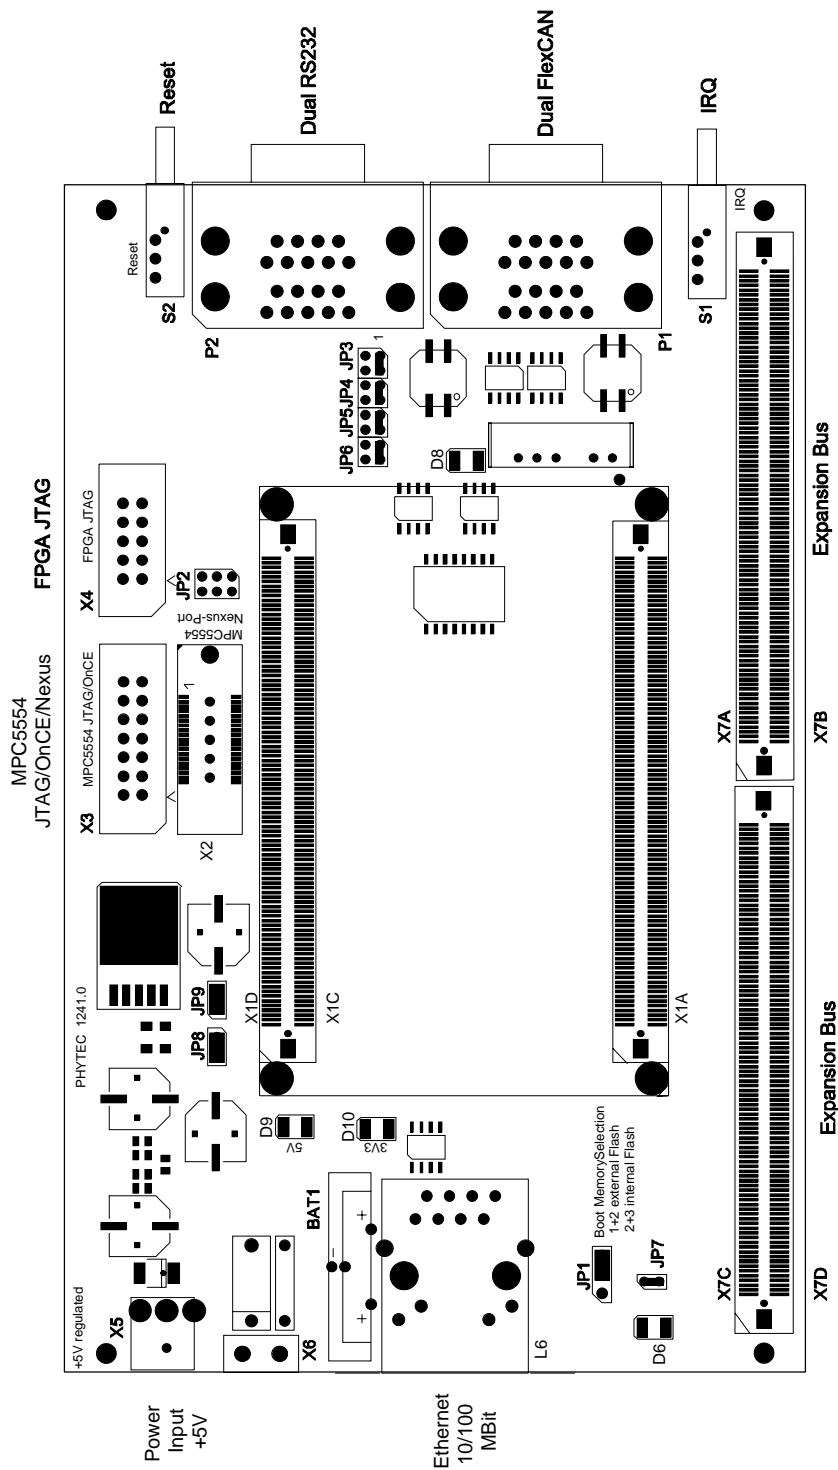

Figure 2: View of Development Board and Jumper Settings
- If the phyCORE module is not already pre-installed, mount it pins-down onto the Development Board's receptacle footprint (X1) as shown in the *Figure 2* below. Ensure that pin 1 of module matches pin 1 of the receptacle on the Development Board.
- Configure the jumpers on the phyCORE Development Board as indicated in *Figure 2*. This correctly routes the CAN interface signals. *Please see the phyCORE-MPC5554 Hardware Manual for further information on jumper settings.*
- Make sure Jumper JP1 on the phyCORE-MPC5554 Development Board is closed at position 2+3 (refer to Figure 2).
Check that jumper JP1 on the baseboard is configured to 2+3 (*refer to Figure 2*) and press the reset button S2 near the double DB9 serial connector. The system will re-start out of the on-chip Flash memory.
- Make sure Jumper JP2 on the phyCORE-MPC5554 Development Board is closed at position 1+2 (*refer to Figure 2*).
Check that jumper JP1 on the baseboard is configured to 1+2 (*refer to Figure 2*) and press the reset button S2 near the double DB9 serial connector. The system will re-start out of the external Flash memory.